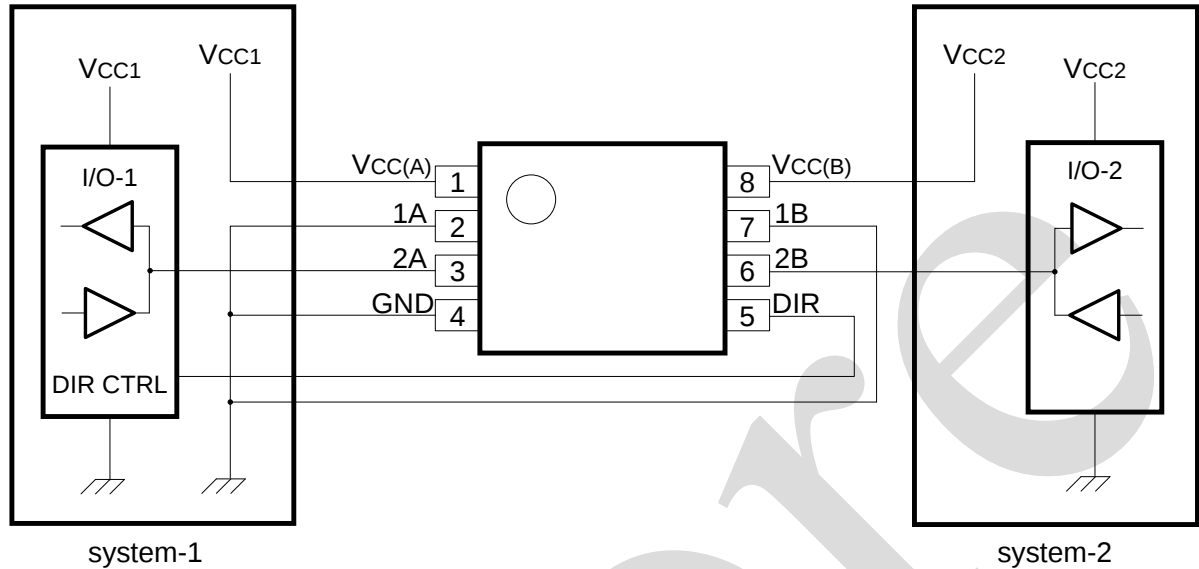

Figure 7. Bidirectional logic level-shifting application
Figure 7 shows the AiP74AVCH2T45 being used in a bidirectional logic level-shifting application. Since the device does not have an output enable (OE) pin, the system designer should take precautions to avoid bus contention between system-1 and system-2 when changing directions.